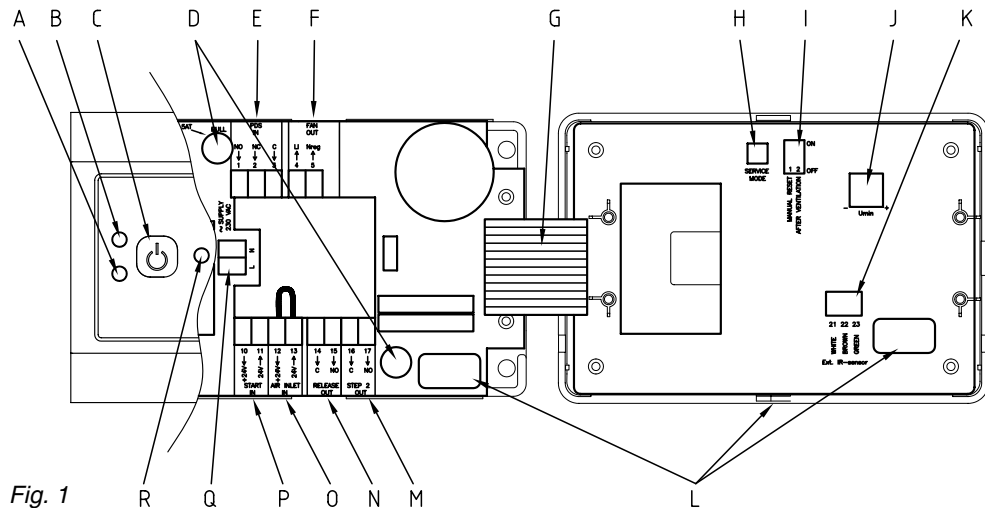

Fig. 1
The EXHAUSTO fireplace control EFC 25 (Fig. 1) has been developed for use with gas fire control units which have flame detection and automatic ignition, and in connection with the installation of EXHAUSTO chimney fans.
By activating the EFC 25, the chimney fan will immediately start up on full speed. When the fail-safe supervision confirms sufficient chimney draught, the fireplace will be lit and the fan speed will adjust to the pre-set value corresponding to the appliance operating normally, (Fig. 1-J).
When EFC 25 is turned off, the chimney fan stops. It is possible to pre-set a run-on time period of 3 minutes, (Fig. 1-I).
The fail-safe settings can be set by dipswitches (Fig. 1-I) according to local laws and standards.
Check the factory settings of the dipswitches (Fig. 1-I) before commissioning.
- Press ON/OFF button (Fig. 1-C)
- Press the service mode button (Fig. 1-H) on reverse of front cover. The alarm LED (Fig. 1-A) will flash RED and operation LED (Fig. 1-B) will flash according to the position of the PDS switch as follows:
- The potentiometer (Fig. 1-J) is set at maximum by turning clockwise.